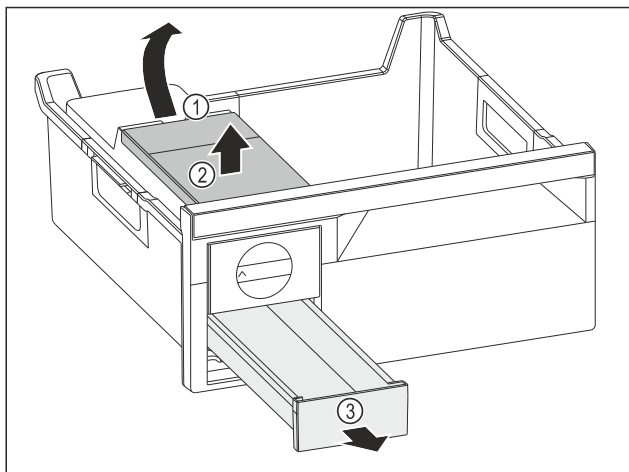

Fig. 73
- Removing the water tank: Lift the water tank by the recess Fig. 73 (1).
- Remove the water tank Fig. 73 (2) upwards.
- Remove the ice cube drawer Fig. 73 (3) to the front.